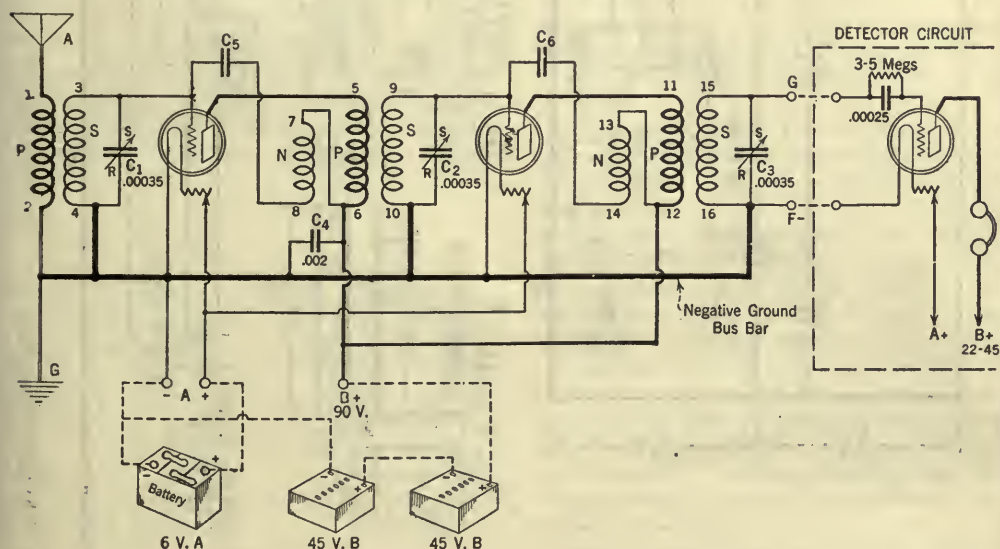

FIG. 5
Engineers have made electrostatic coupling a special study. Full reports of their findings are not yet available. However, the few bare facts such as separation of parts, concentration of coil winding, and simplicity of wiring serve to guide us toward correct constructional design. The circuit of the radio-frequency amplifier described here is shown in Fig. 5. This amplifier may be used with any type of detector and audio-frequency amplifier now available. In a future number of RADIO BROADCAST we shall describe a detector and
double-wound primary, constituting the N-P coils, and a secondary (S), as illustrated in Fig. 5.
All connections should be soldered. Lugs may be used at socket and condenser terminals to facilitate the soldering job and this also permits the terminal nuts to be tightly fastened down on the lugs before the soldering is begun. Suitable wrenches for this work are now on the market. The wiring plan is shown in Fig. 11. The schematic circuit diagram is Fig. 5.
A .002 mfd. fixed condenser is connected from the B terminal to the minus A terminal. A detector circuit (to which, of course, may be added several stages of audio-frequency amplification) is connected to the r. f. amplifier as shown in Fig. 5. for test purposes.